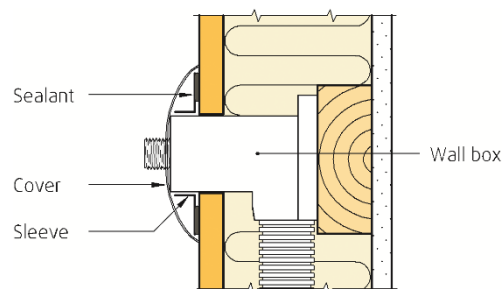

Fig. 3
- Sleeve delivered with the wall box is to be attached to the bathroom panel using one of the sealants listed in table 3. See Fig 3.